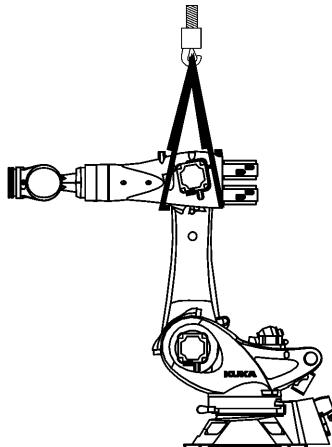

Fig. 11-3: Securing the link arm
1. Secure the link arm using a rope sling (**>>> Fig. 11-3**).